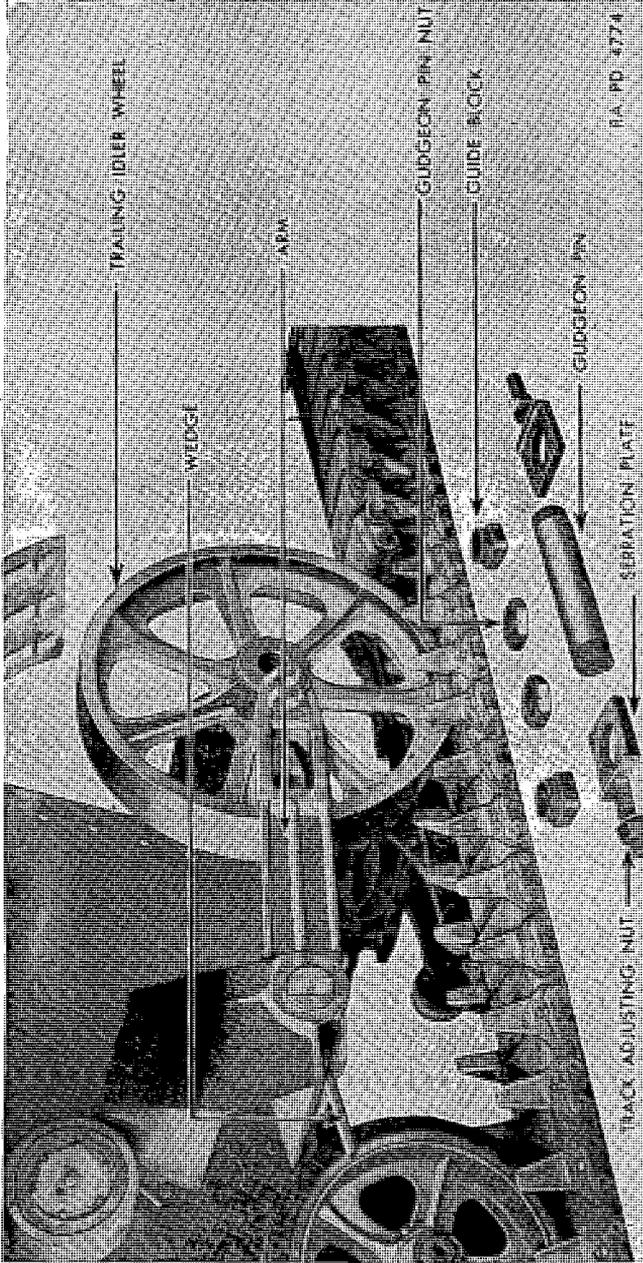

Figure 79.—Trailing idler wheel disassembly.
(1) *Removal of trailing idler wheel (fig. 79).*—(a) Disconnect track (see par. 113*d*).